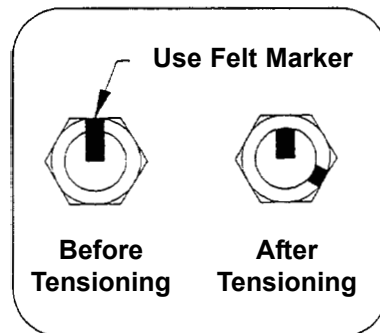
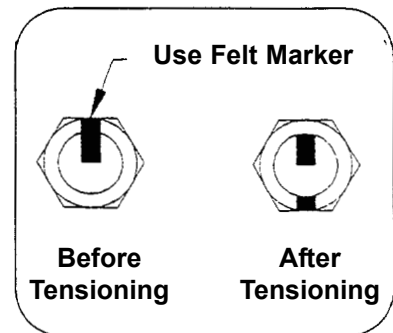

Figure 3-1a: A-325 Tensioning Procedure For bolts less than 4 diameters
Figure 3-1b: A-325 Tensioning Procedure For bolts over 4 diameters
- Step 5** Using a felt-tip marker, mark the nuts and the ends of the bolts with a straight line as shown in Figure 3-1a and Figure 3-1b.
- Step 6** Tighten the nuts further with an extra long wrench until the nuts are moved 1/3 turn (120 degrees) as shown in **Figure 3-1a** for bolt lengths less than four diameters and 1/2 turn (180 degrees) as shown in **Figure 3-1b** for bolt lengths over four diameters.